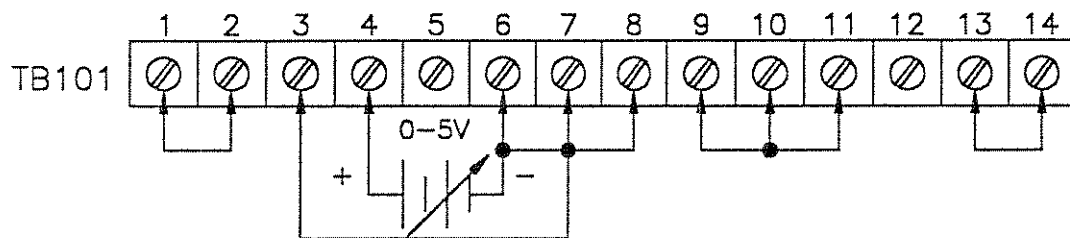

Figure 6: Remote Programming by External Voltage, Voltage Mode.
3.3.5 Remote Programming By External Voltage (Figures 6 & 7)